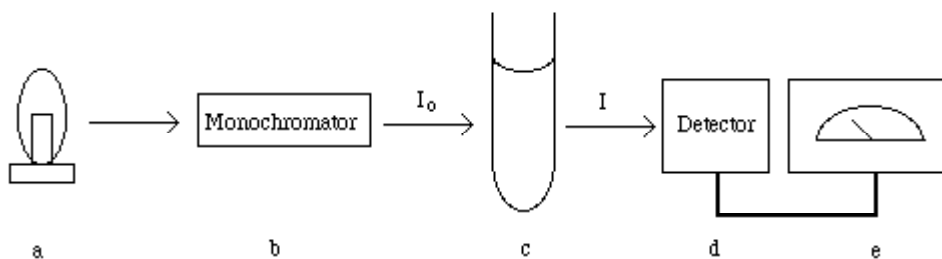

Figure 1. A schematic representation of a spectrophotometer.
In this experiment you will carefully analyze the concentration of solutions of Bromothymol Blue and Thymol Blue. To do this you will use a spectrophotometer, an instrument which measures the fraction of light (I/I_0) that is absorbed by a sample. The sample is placed in a tube called a cuvette and is then irradiated with an incident beam of light (I_0) of a specific wavelength. A detector then measures the amount of light that is transmitted through the sample (I). A schematic representation of a spectrophotometer is shown below in Figure 1.